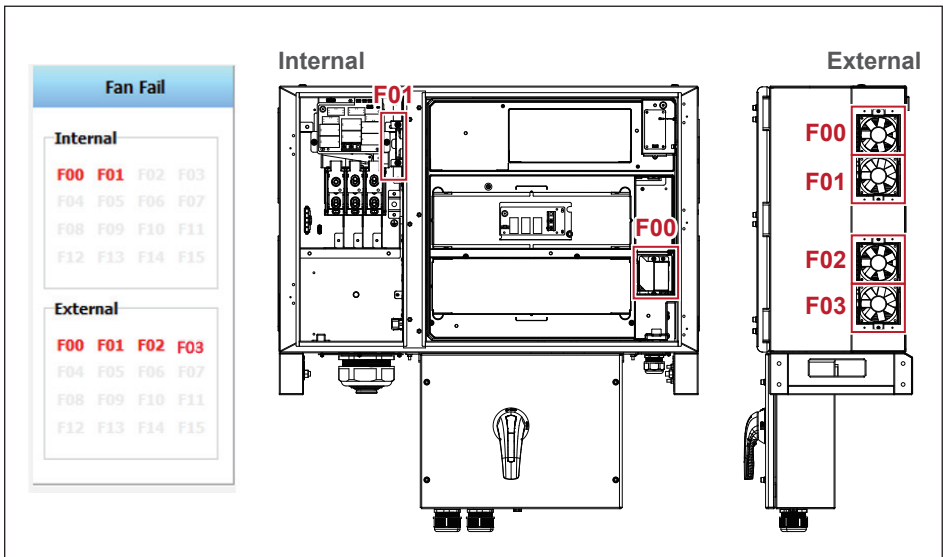

Figure 5-10: The corresponding fan location to the fan fail code on DSS
• Fuse replacement (Figure 5-10)
The order of fan is shown in **Figure 5-10**.